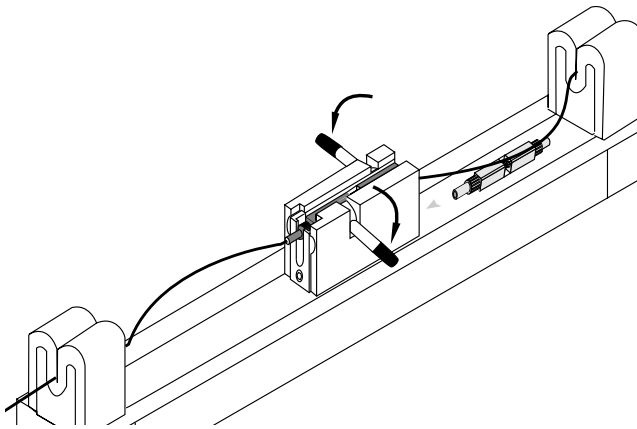

Figure 8
5.9 Slowly rotate both levers down to actuate the CamSplice (Figure 8).